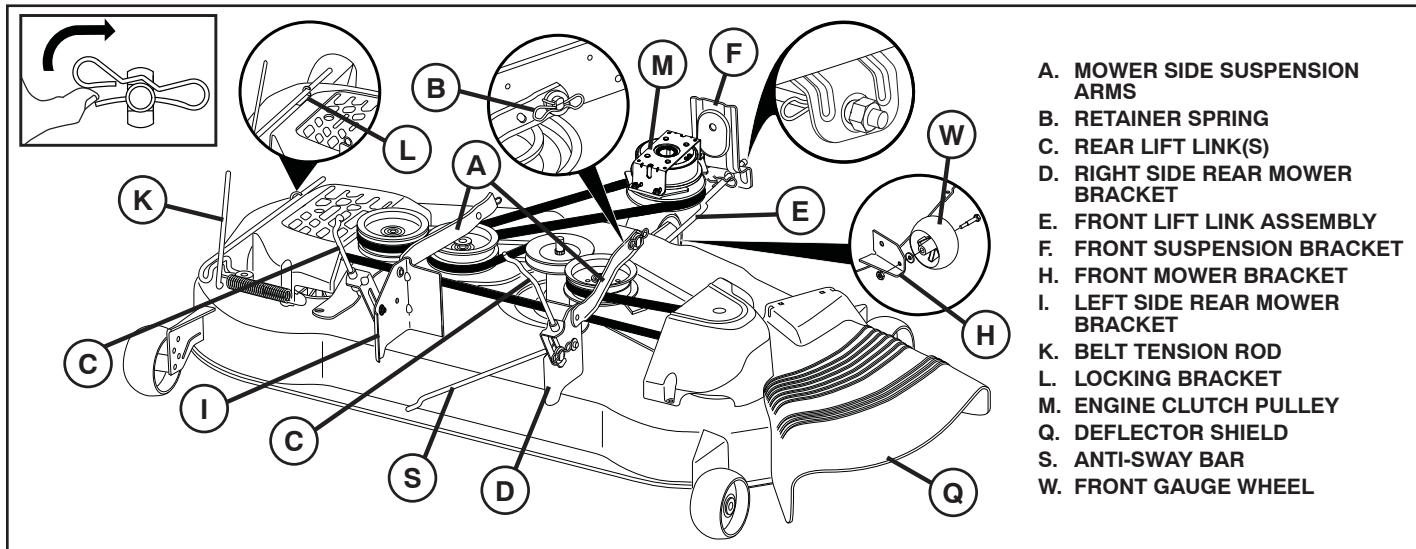

Fig. 8
9 INSTALL BELT ON ENGINE CLUTCH PULLEY (M) (See Fig. 8 & 15)
- Disengage belt tension rod (K) from locking bracket (L).
- Install belt onto engine clutch pulley (M).